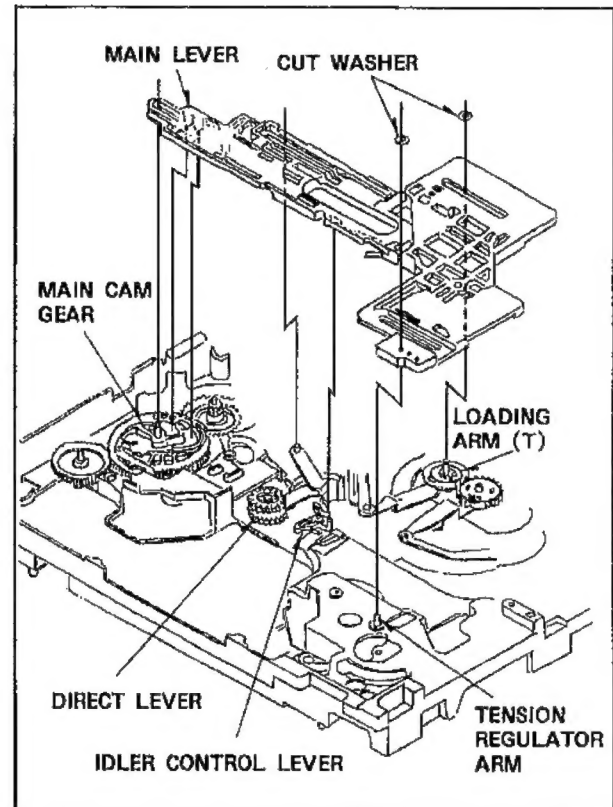

Fig.M42
2. Insert the 2 cut washer as shown in Fig.M42.